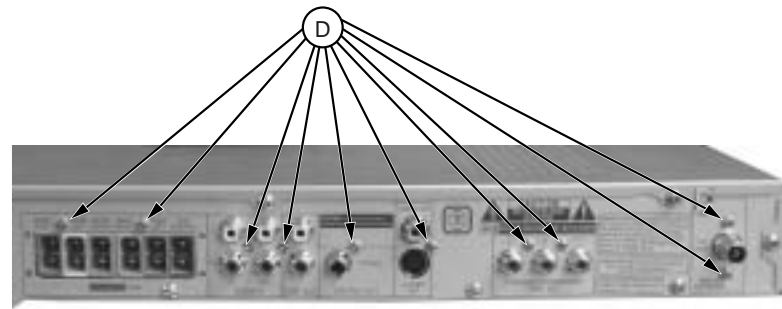

Figure 6
- 1) Loosen 10 screw " D " at the back panel as shown in figure 6.